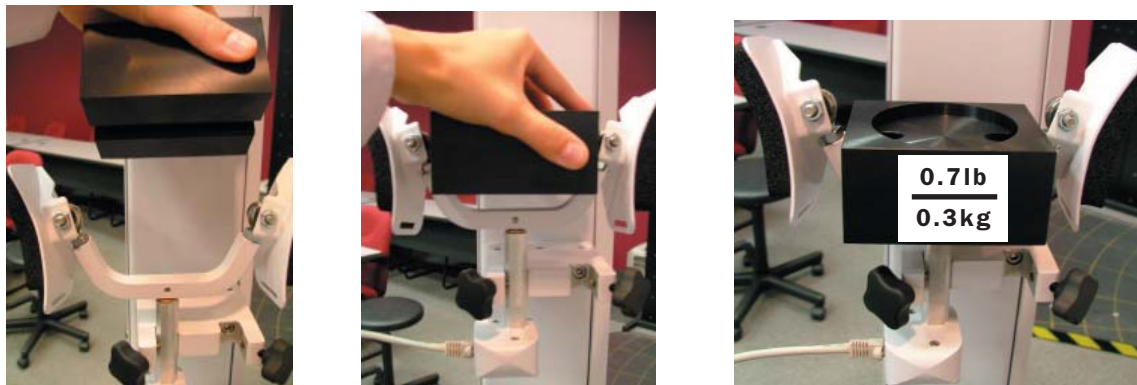

Figure 5-5. Placing Calibration Block on Head Brace
Step 2. Place the calibration block on the head brace (Figure 5-5).